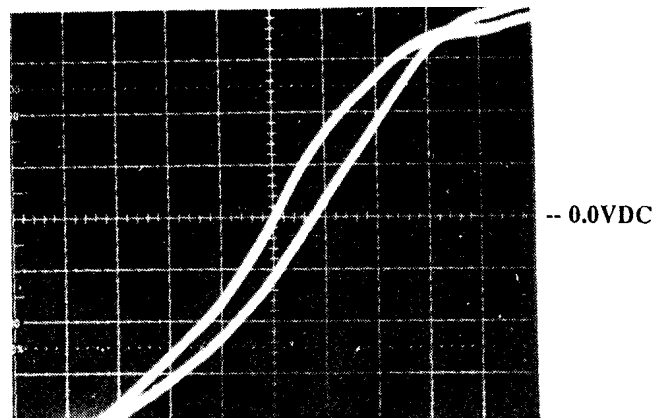

Figure 6-6
- e. Increase the vertical sensitivity of the scope to expand the waveform. Switch the scope to the X10 position and readjust the horizontal position so that the RF transition again crosses the center line of the scope. This will be the reference for the phase measurements. If another RF amplifier transition occurs at the first large division on the left, this amplifier is operating at 4 degrees lagging from the reference. See Figure 6-6.